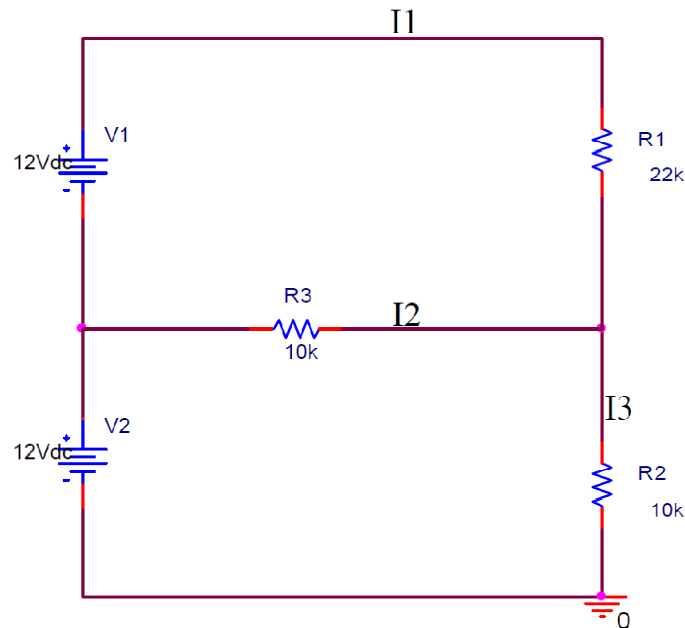

Figure 1. Circuit to be simulated
Build the circuit shown below in Figure 1 in PSPICE, and then answer the questions below.
- (1) Build the circuit shown in Figure 1 and simulate the circuit using 'Bias Point' Analysis. Show on the schematic the voltages and currents.
- (2) Simulate the circuit from 0 to 10ms. Plot the current across R1, R2, and R3, and add the waveforms to your prelab report. (Refer *Reference 2* for transient simulation technique using PSPICE)
- (3) Calculate the currents I_1 , I_2 , and I_3 shown in Figure 1, using either nodal or mesh analysis technique.
- (4) Compare your calculated results of I_1 , I_2 , and I_3 with the PSPICE results. Calculate the % error.
- (5) Remove the lower voltage source and replace it with a short circuit and solve the currents in step (3) again and denote them as I_1' , I_2' , and I_3' .
- (6) Remove the upper voltage source and replace it with a short circuit and again solve the currents in step (3) and denote them as I_1'' , I_2'' , and I_3'' .
- (7) Combine (add) the solutions of steps (5) and (6) to find the currents I_1 , I_2 , and I_3 . Compare this result with the PSPICE results calculated in step (3). Calculate the % error.